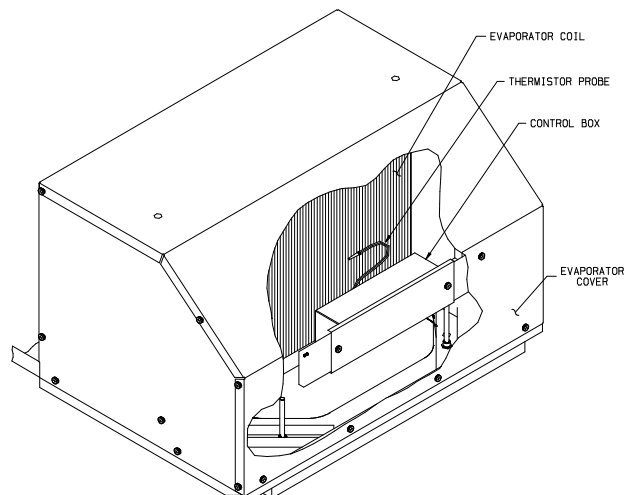
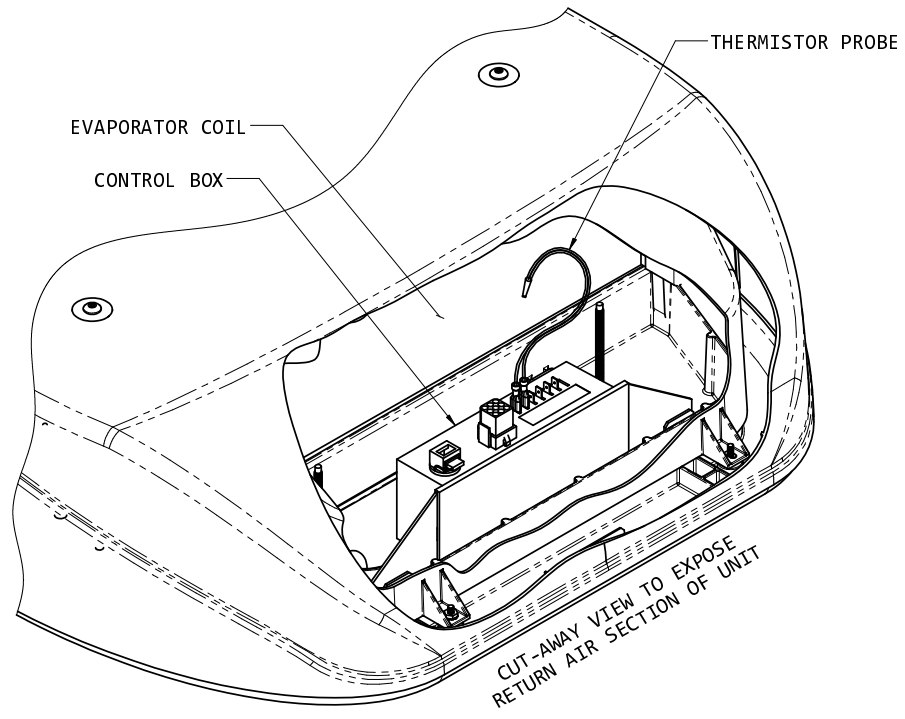

FIGURE 2
FIGURE 9
6. Locate the two machine screws inside the evaporator cover of the upper unit. Align the control box over the screws and use the wing nuts supplied with the control box to secure it to the upper unit enclosure. See Figure 2 for control box orientation in 48000 and 49000 series units. See Figure 9 for 47000 series units.
7. Insert the evaporator freeze sensor between evaporator fins near the bottom center of the evaporator and between the bottom two tubes (See Figure 2). Insert straight in until contacting the staggered tube directly in back of the insertion point. When contact has been made, elevate the exposed end of the sensor approximately 45 degrees, then continue insertion at a 45 degree angle until the sensor is completely embedded into the evaporator.
Position the control box over the screws and use the wing nuts to fasten the control box to the upper unit enclosure. For 47000 series units, refer to Figure 9 on page 13. Note that the box is installed with the wiring exiting upwards.
Insert the evaporator freeze sensor between evaporator fins near the bottom center of the evaporator and between the bottom two tubes (See Figure 2). Insert straight in until contacting the staggered tube directly in back of the insertion point. When contact has been made, elevate the exposed end of the sensor approximately 45 degrees, then continue insertion at a 45 degree angle until the sensor is completely embedded into the evaporator.